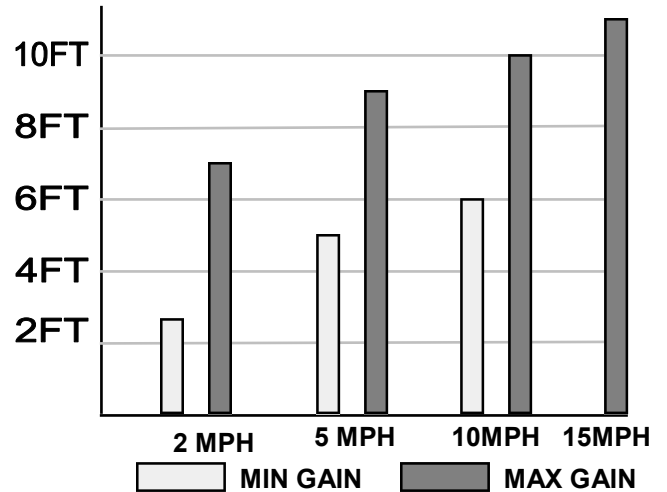

Figure 4 - Approximate Detection Radius
3. Remember that the mass and speed of vehicles results in a relatively large diameter detection area (See Figure 4). The sensor should not be installed closer than about 30 feet from a busy residential road, about 40 feet from truck traffic, and about 100 feet from railroad tracks.
1. Determine the optimum placement by laying the sensor on the ground, turning the Signal Processor sensitivity ("GAIN") all the way down, and driving past the sensor at the probable vehicle speed and line of travel (See Figure 4). Gradually increase the sensitivity and/or adjust the sensor location for desired results. Keep the sensitivity as low as possible to avoid nuisance tripping. Bury the sensor about 6 inches (15cm) deep, parallel to the line of travel of the vehicle.
3. Place the sensor(s) on the ground in the desired location. Figure 4 shows the approximate coverage pattern for a single sensor.